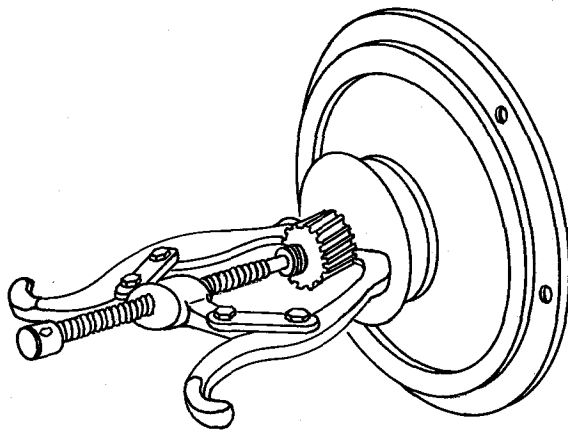

Fig. 11
- a) As the first pinion (21) and the motor shaft are in a taper fit, be sure to pull out the pinion with a bearing puller. (Fig. 11)